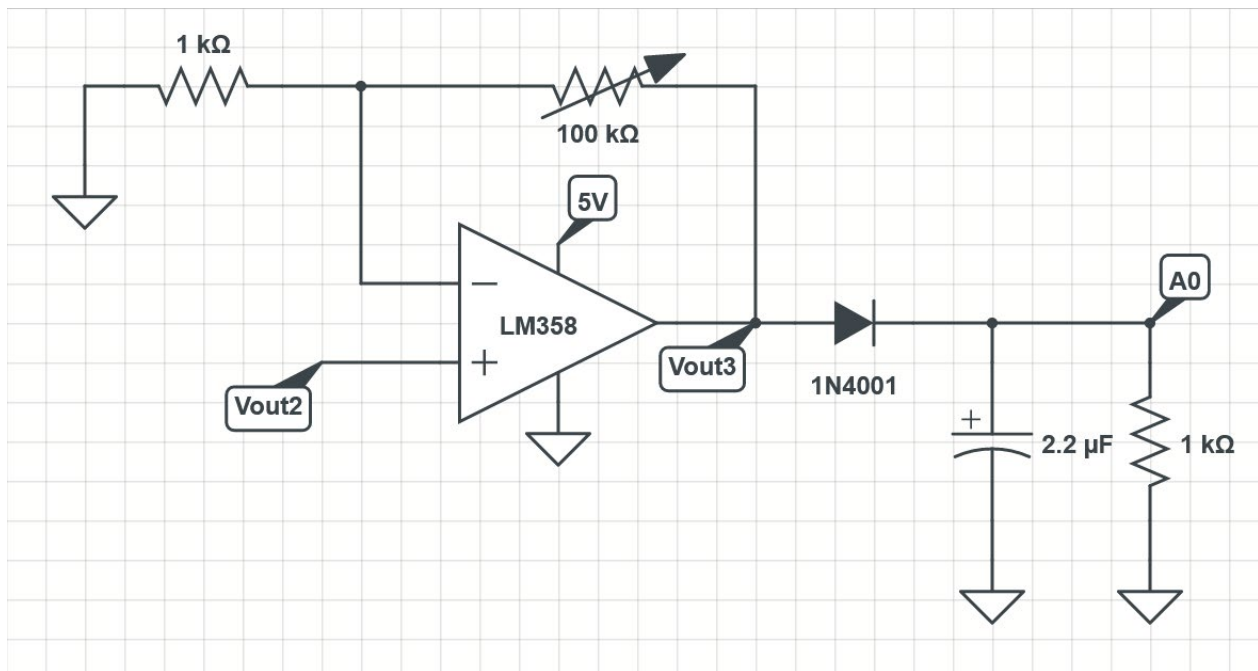

Figure 5: Filter + Amplifier + Envelope Detector. A0 is the analog pin of the Arduino
1. Wire the circuit as shown in Figure 5. We are using the operational amplifier in non-inverting configuration.
8. Connect the output of the Envelope Detector (A0) to any analog pin of the Arduino (Figure 5 says A0 but you are free to choose any other pin).